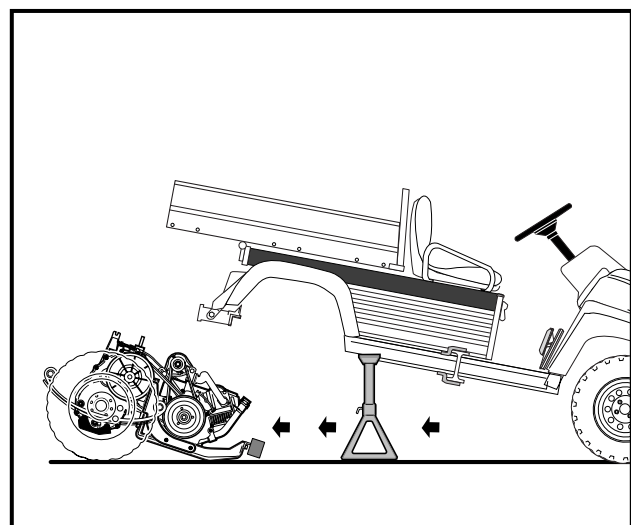

Figure 16-31 Remove Powertrain
12. Grasp the ends of the leaf springs at the rear of the vehicle and roll the powertrain out from under the vehicle (**Figure 16-31, Page 16-13**).